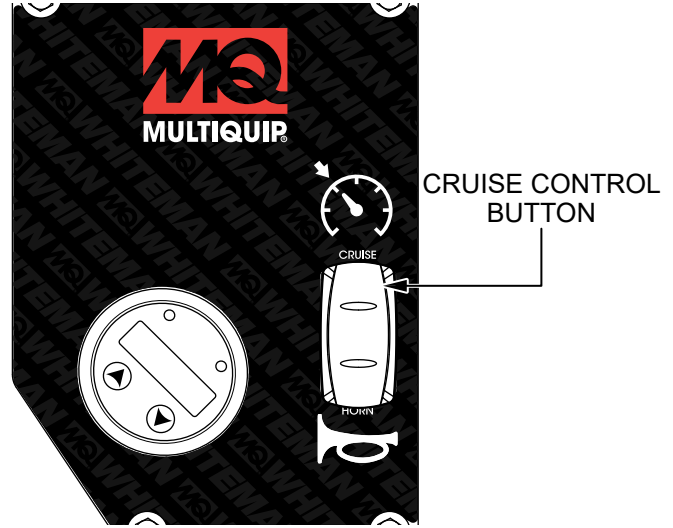

Figure 25. Cruise Control Button
- Press the **cruise control button** (Figure 25).